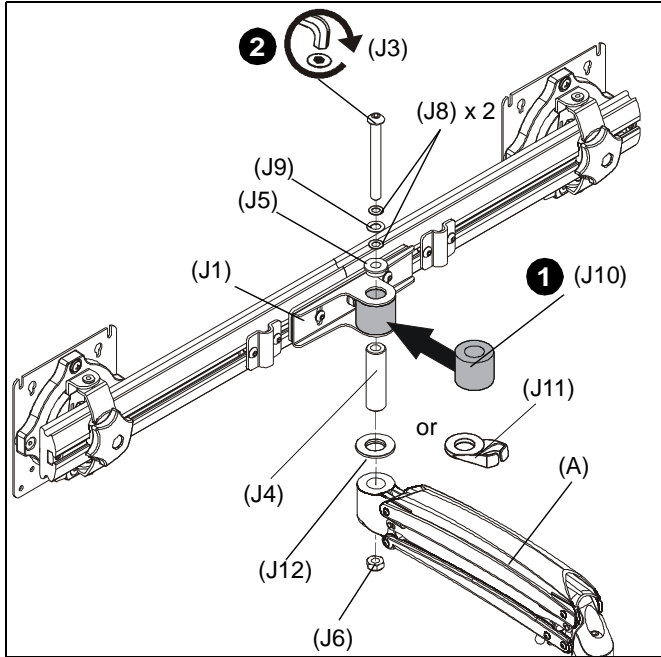

Figure 12
1. Slide rotational spacer (J10) into opening on array attachment bracket. (See Figure 12)
2. Use 5/16-18 x 3" button head cap screw (J3), two thin steel washers (J8), plastic spacer (J9), pocket washer (J5), pivot pin (J4), pivot point spacer (J12) and 5/16-18 lock nut (J6) to secure array (J1) to K1C arm (A). (See Figure 12)
**NOTE:** Cable clip (J11) can be used in place of pivot point spacer (J12) if additional cable management is desired. (See Figure 12)